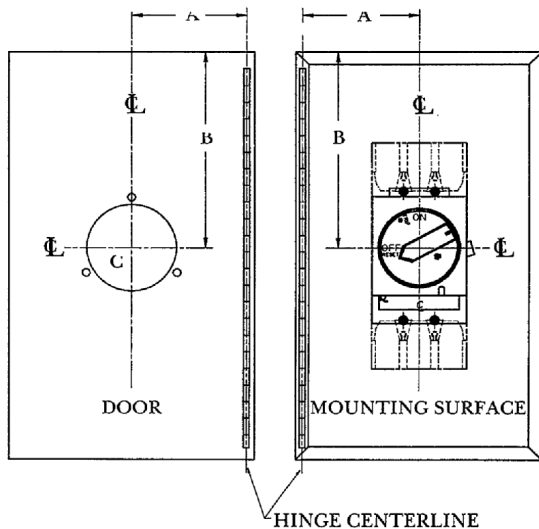

Figure 2. TDR integral handle operator catch kit.
Locate and mount the breaker within the enclosure per installation instructions DEH40463 for the FC100 circuit breaker. The distance from the vertical centerline of the protective device to the enclosure wall (with hinges) has a minimum distance A, illustrated in Figure 2. Distance A must be equal to or greater than one-half the length of the enclosure door from the hinged side to the latch side. Preferably, the hole should be located toward the latch side for interlock leverage.
A. Locate the center of a circle for the integral handle indication ring on the enclosure door, referring to Figure 2 and the following steps.
2. Assuming the mounting surface of the enclosure and the closed door to be parallel, transcribe dimensions A and B to the enclosure door per figure 2.